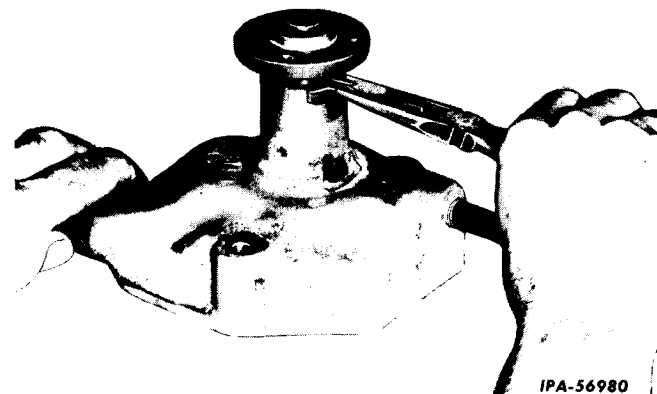

Fig. 4 - Removing the Front Snap Ring.
3. Install the snap ring in its groove at the front end of the pump body (Fig. 4).